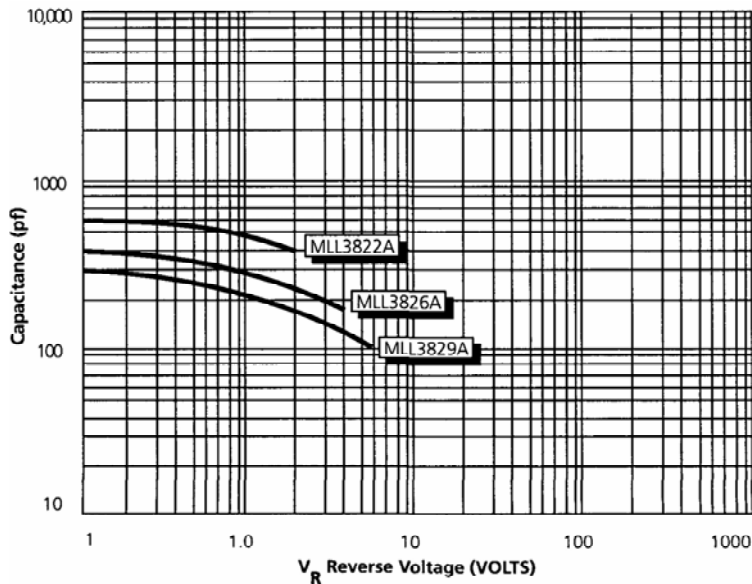

FIGURE 2 Typical Capacitance vs. Reverse Voltage
- Specified capacitance (see Figure 2)